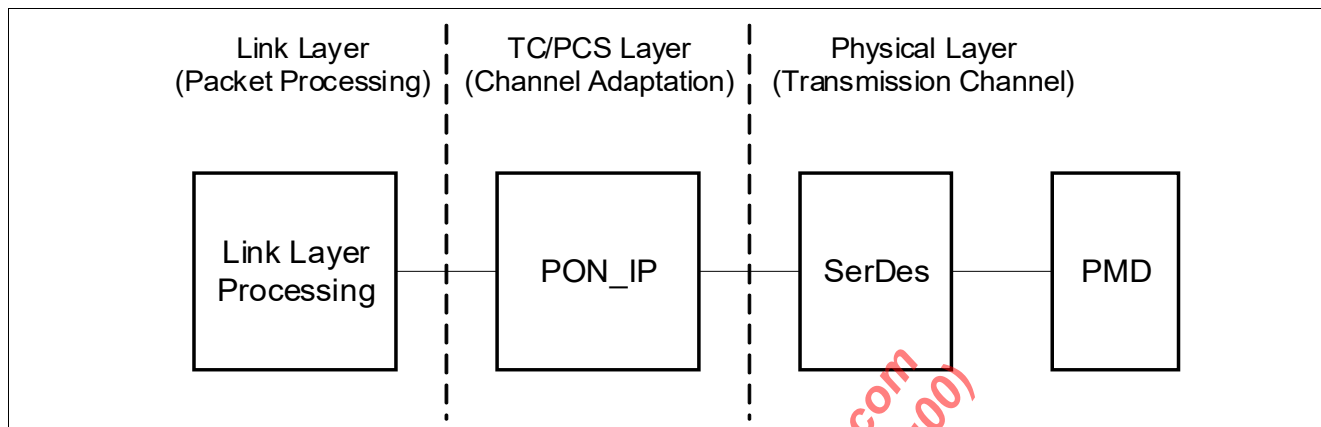

Figure 55 URX851/MxL25641 Integration Overview
The URX851, and MxL25641 devices are a Transmission Convergence (TC) layer or Physical Coding Sublayer (PCS) implementation which integrates SoCs between a link layer processing instance and a physical layer interface. **Figure 55** illustrates this integration.